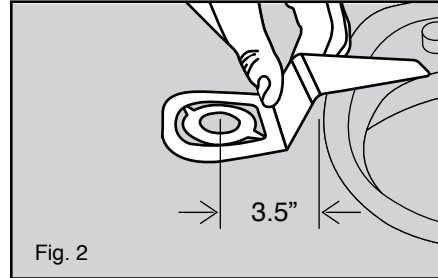

Fig. 2
3. Use the plastic template provided to determine the appropriate position from the sink's edge, based on what is under the countertop, the hole should be drilled. Note the maximum dimension from the center of the hole to the edge of the sink is 3.5 inches (see figure 2).